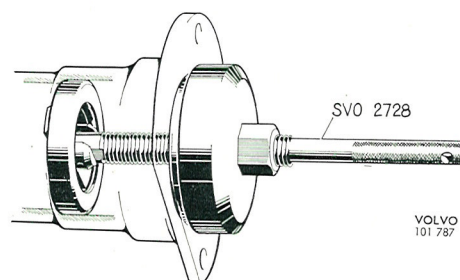

Fig. 4-84. Removing the inner oil seal
12. Pull out the inner oil seal with puller SVO 2728, see Fig. 4-84. Drive in the new seal ring with drift SVO 2712, which automatically locates the oil seal correctly in the drive shaft tubular cover, see Fig. 4-85.